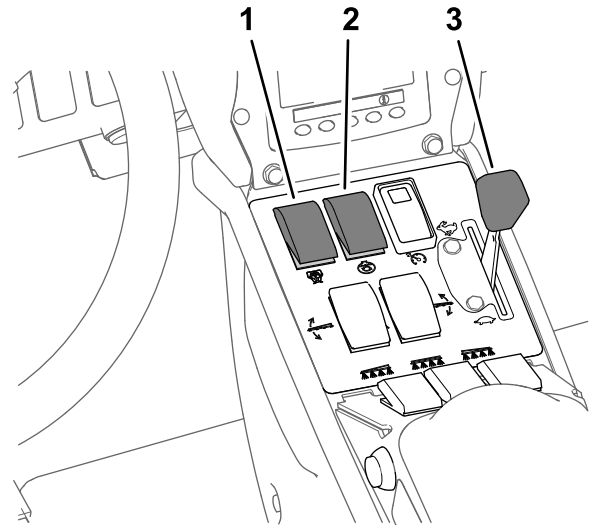

Figure 40
8. Set the agitation switch and the spray-pump switch to the ON position (Figure 40).
9. Set the throttle to the FAST position (Figure 40).
Note: This procedure assumes that the spray pump is on; refer to Figure 40 in Spraying in the Application Rate Mode (page 35).
4. Adjust the throttle to the desired engine speed to spray; refer to Figure 40 in Spraying in the Application Rate Mode (page 35).